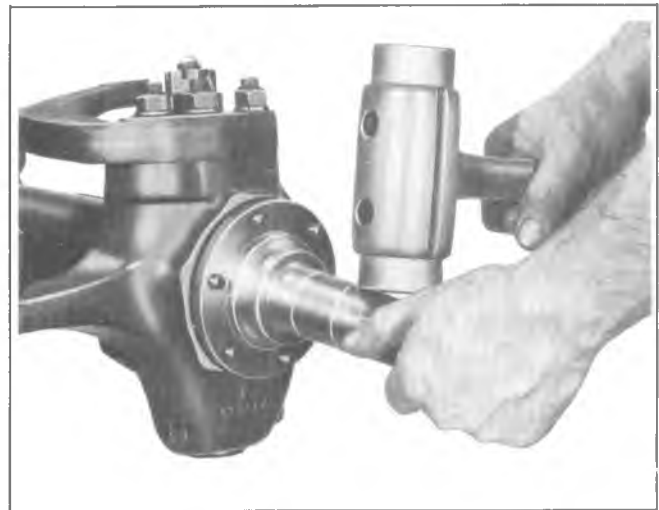

Fig. 3C-7K--Removing Spindle and Thrust Washer
3. Remove the spindle and bronze thrust washer by tapping the end of the spindle lightly with a soft hammer to break it loose from the knuckle as shown in Figure 3C-7K. Replace the thrust washer if excessive wear has occurred.